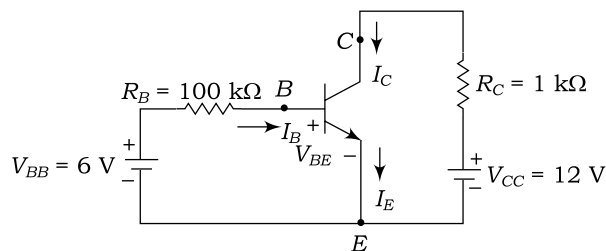

Fig. 2.108
29. Figure 2.108 shows a common-emitter configuration of a *NPN* transistor. When $\beta = 75$ and $I_{C0} = 10 \mu\text{A}$, determine the transistor currents. What will happen if the R_C is indefinitely increased?